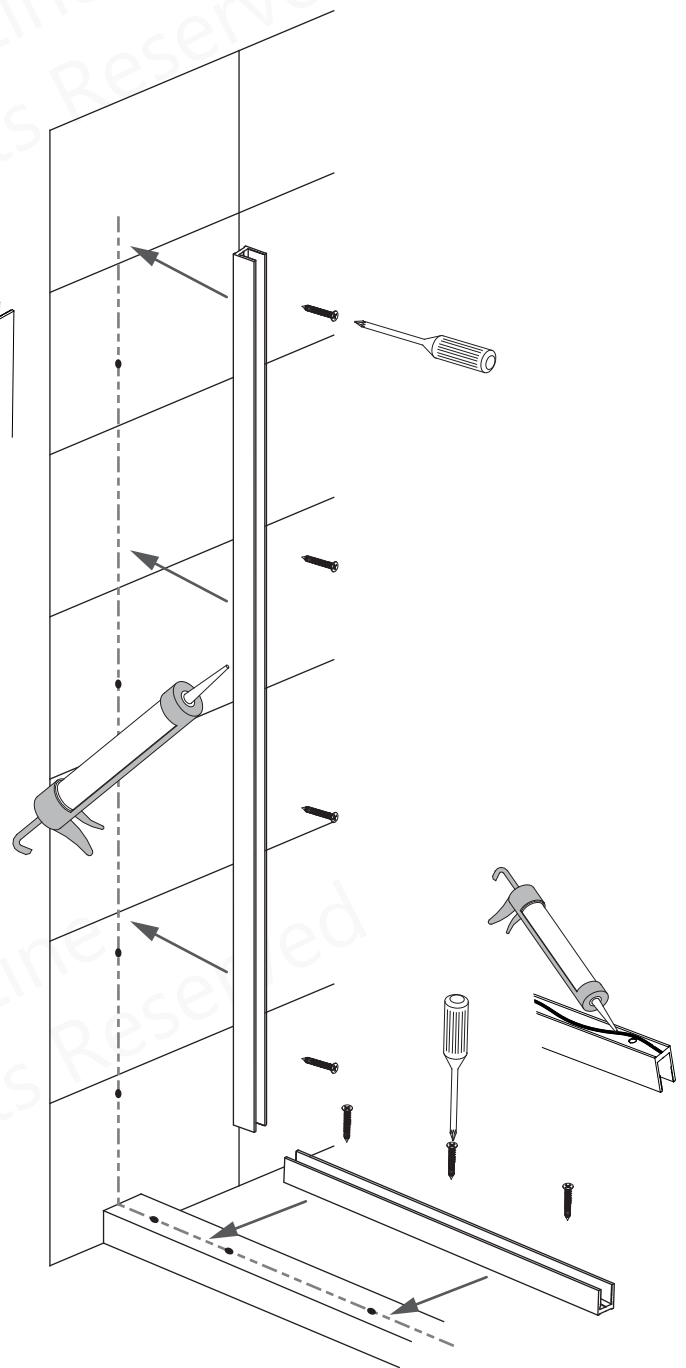

Fig 6
6. Apply silicone to the back of the U-Channels and the screw holes, then install the U-Channels using the **ST4.2 x 40mm Screws (#23)**. **(Fig 6)**